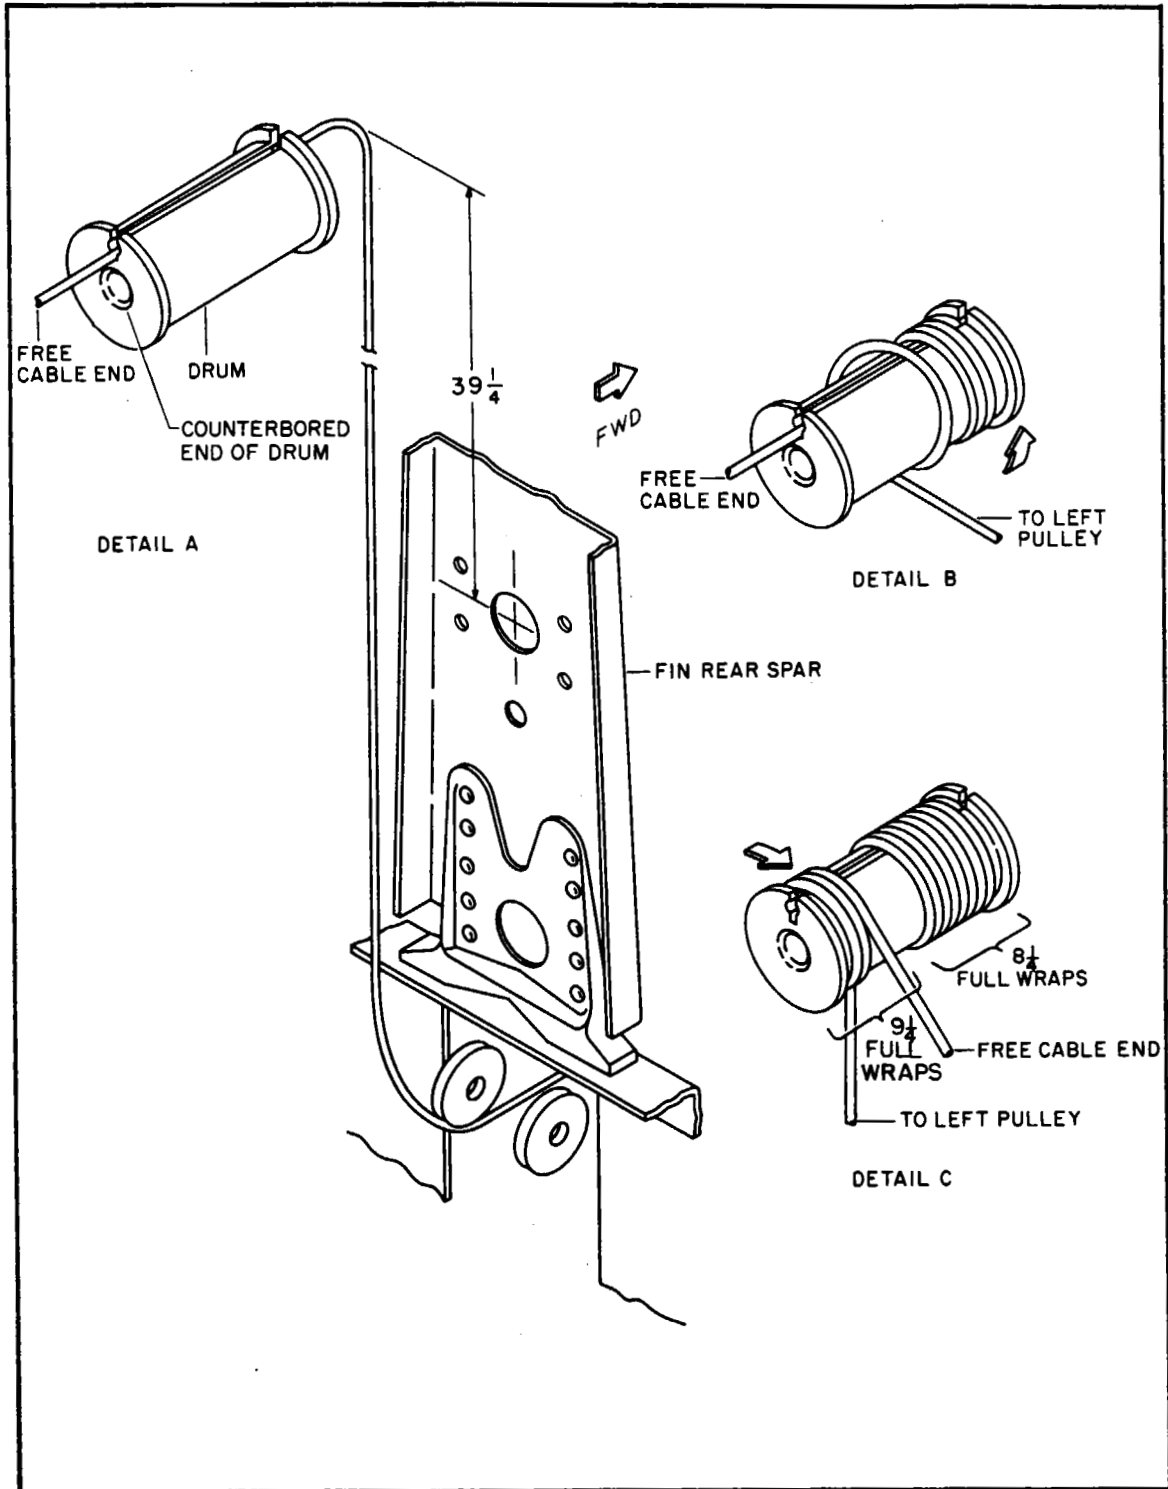

Figure 5-11. Wrapping Rudder Trim Drum Cable
f. Lay the 39-1/4 inch point of the cable in the slot in the rudder trim tab drum (17), with the free end of the cable directed towards the counterbored-end of the drum. Lock the cable in the slot with the locking pin (16). When installed, the counterbored-end of the drum will be the aft end of the drum. (Refer to Figure 5-11.)
g. Starting from the front of the drum, wrap the length of cable extending from the fuselage around the drum, eight and one-quarter times, winding to the left (counterclockwise when viewed from the rear). This will utilize most of the 39-1/4 inches of cable. (See Detail B, Figure 5-11.)
h. Starting from the rear of the drum, wrap the free end of the cable around the drum nine and one-quarter times, winding to the right (clockwise, when viewed from the rear). (Refer to Detail C, Figure 5-11.)